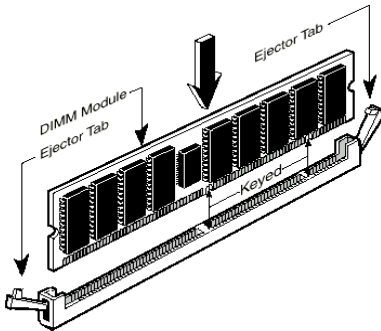

Figure 2-6. Memory module installation
Step 5. Insert the DIMM module into the expansion socket as shown in the illustration. Note how the module is keyed to the socket. You can refer to Figure 2-6 for the details. ***This insures the DIMM module will be plugged into the socket in one way only.*** Firmly press the DIMM module into DIMM socket, making certain the module is completely seated in the DIMM socket.